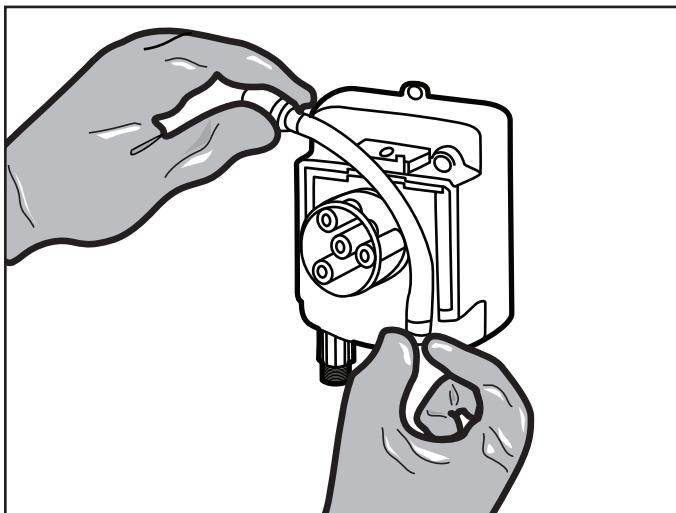

Figure 20. Install New Tube
- To install a new tube, insert one fitting into the slot, pull the tube around the center of the roller assembly and insert the second fitting into the other slot. See Figure 20.